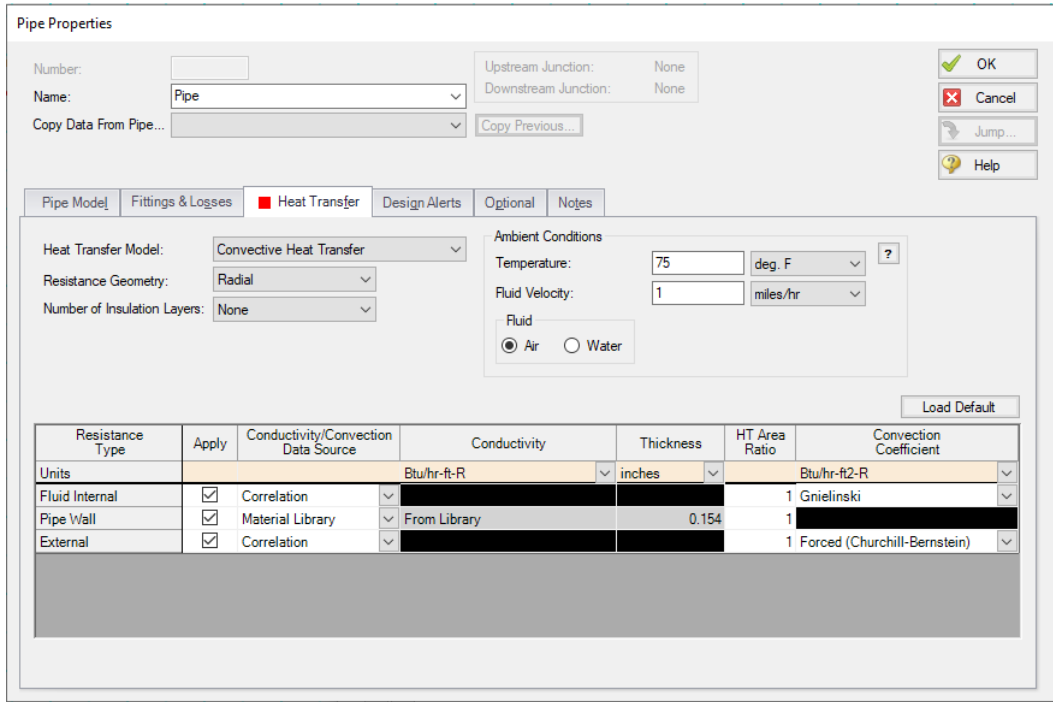

Figure 3.3 The Heat Transfer tab is where you specify heat transfer properties for the pipe
Click on the Heat Transfer tab. Select “Convective Heat Transfer” for the Heat Transfer Model, and enter 75 deg. F for the Ambient Temperature and 1 miles/hr for the Fluid Velocity with Air as the fluid. Also, ensure that the Gnielinski correlation is selected under the Convection Coefficient column in the Fluid Internal row, and that Forced (Churchill-Bernstein) is chosen in the External row. The Pipe Properties window should appear as shown in Figure 3.3. Select OK.
2. For this case, you should use the highest ambient temperature of 75 deg. F and minimum velocity of 1.0 miles/hr which will yield the lowest heat loss. Since you used this same data when you added the pipe heat transfer data in the Base Scenario using the Global Pipe Edit feature, the pipes in this scenario have already inherited this heat transfer data, so no change in the heat transfer data is necessary. To verify this, click on Pipe P2 to open the Pipe Properties window. Select the Heat Transfer tab. The data should appear the same as shown in Figure 3.3.